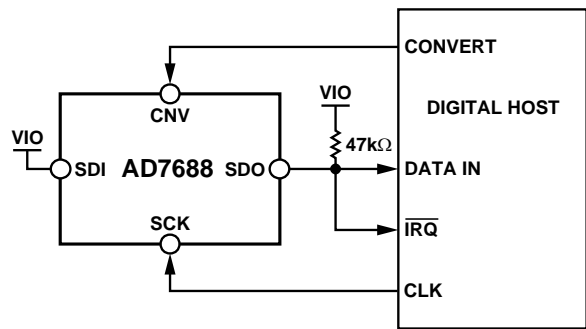
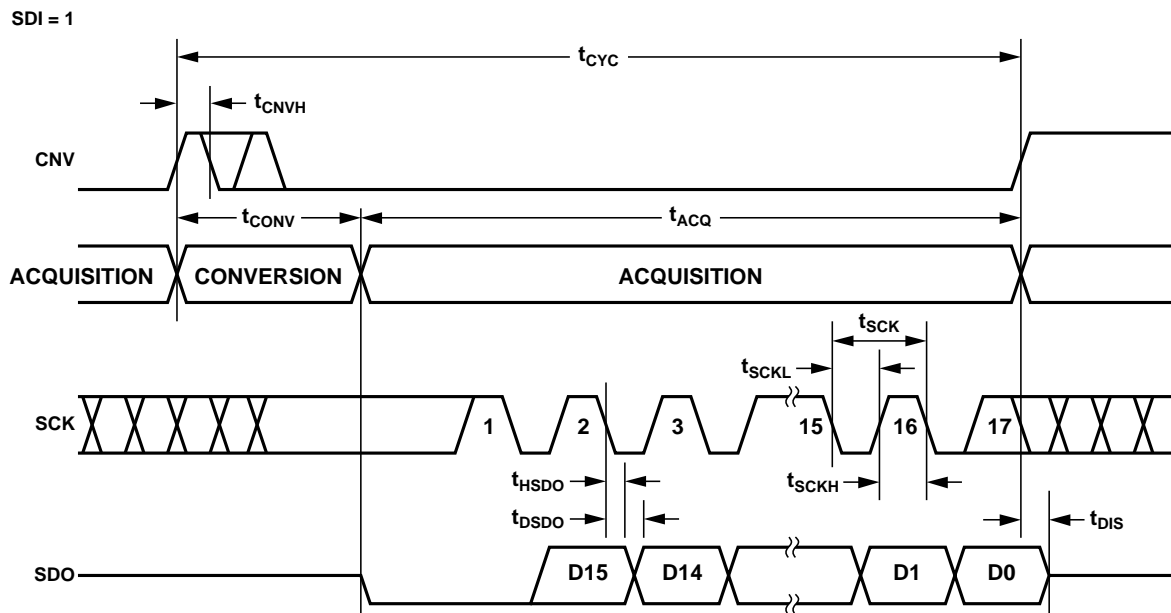
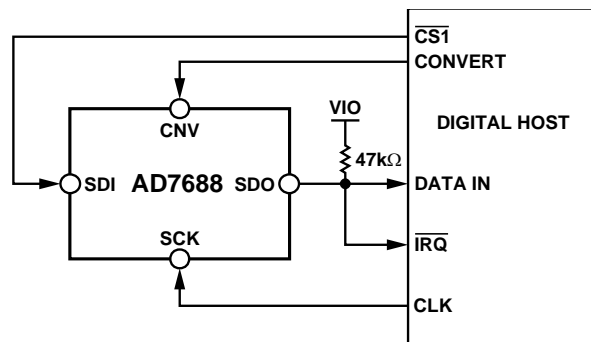
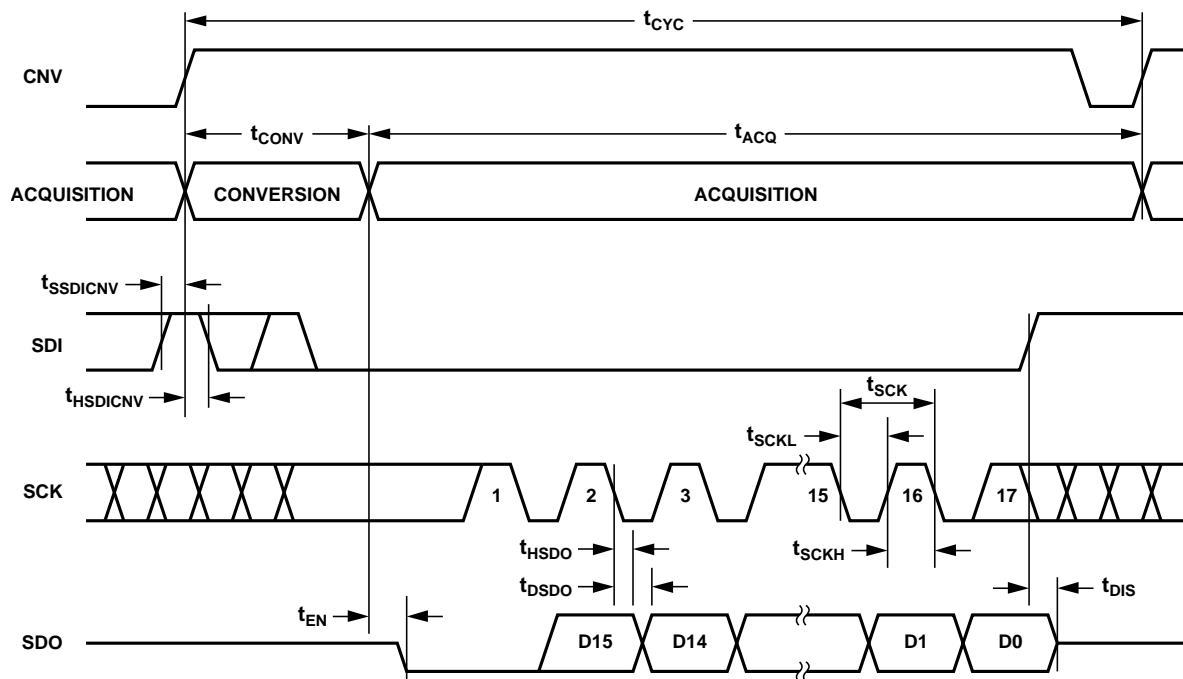

Figure 36. $\overline{\text{CS}}$ Mode 3-Wire with BUSY Indicator Connection Diagram (SDI High)
Figure 37. $\overline{\text{CS}}$ Mode 3-Wire with BUSY Indicator Serial Interface Timing (SDI High)
Figure 40. CS Mode 4-Wire with BUSY Indicator Connection Diagram
Figure 41. CS Mode 4-Wire with BUSY Indicator Serial Interface Timing
- In the $\overline{\text{CS}}$ mode, if CNV or SDI is low when the ADC conversion ends (Figure 37 and Figure 41).
The connection diagram is shown in Figure 36 and the corresponding timing is given in Figure 37.
The connection diagram is shown in Figure 40 and the corresponding timing is given in Figure 41.